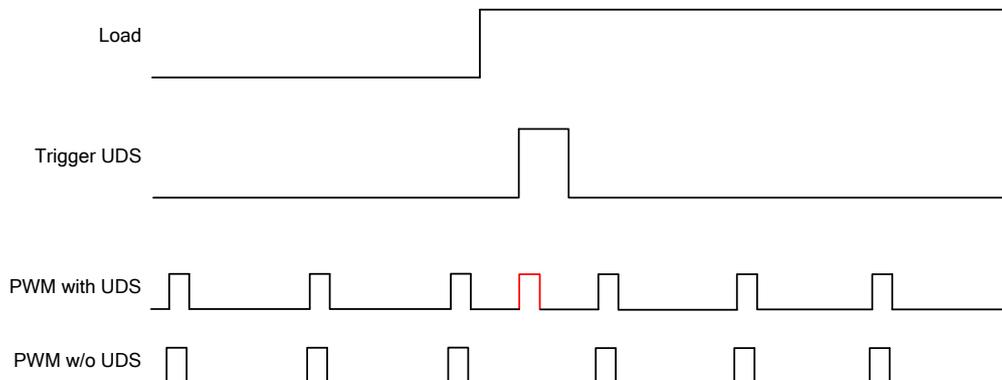

Figure 22. Adaptive Ramp (AR) Function in Single Phase
In single phase configuration, the RT3678BE provides Adaptive Ramp (AR) function to suppress undershoot when load applied. The controller detects internal COMP signal and compares it with steady-state signal. When COMP signal variation exceeds a specified threshold, the controller will force to generate PWM earlier. The threshold of Adaptive Ramp (AR) function can be selected via NVM registers AR_TH_1PH (2Ch[7:5] for rail A and 6Ch[7:5] for rail B). Figure 22 shows UDS behavior in single phase operation. Note that the threshold of AR should be large enough to avoid false triggering in the steady-state. Since the internal COMP signal can vary with ERROR AMP compensator, the final setting should be based on actual Error AMP compensator design and measurement.